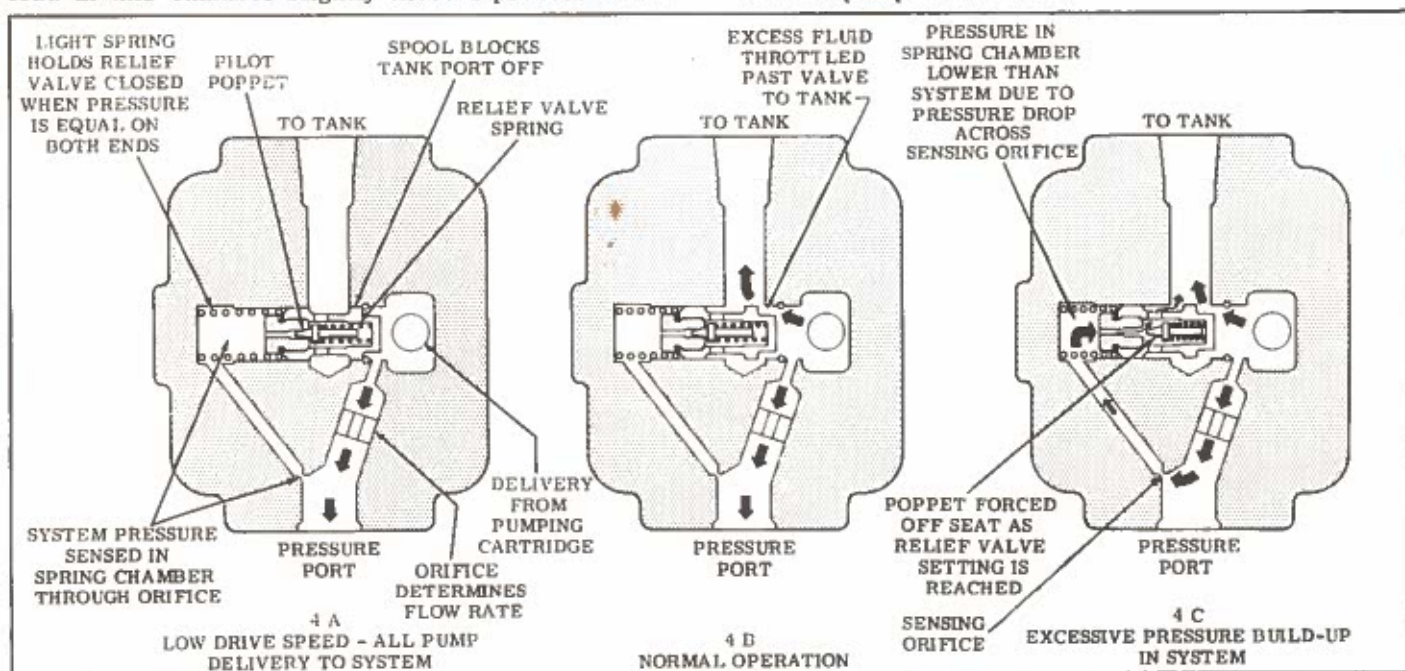

Figure 4
1. Maximum flow to the operating circuit and maximum system pressure are determined by the integral flow control and relief valve in a special outlet cover used on some V10 and V20 pumps. This feature is illustrated pictorially in Figure 4. An orifice in the cover limits maximum flow. A pilot-operated type relief valve shifts to divert excess fluid delivery to tank, thus limiting the system pressure to a predetermined maximum.